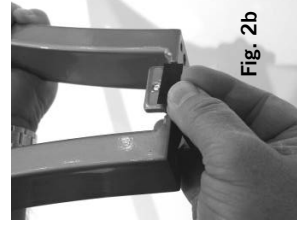

Fig. 2b
**Note:** Set screw should be flush with bracket. (Fig. 2b)
Install shelf pad on flange. (Fig. 2b)